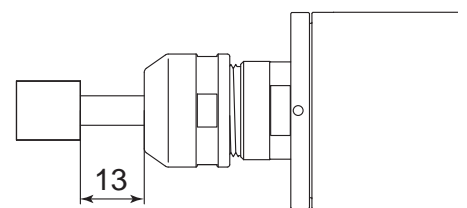

Fig. 15
- ① The proper surface speed for general grindstones is 10 - 30m/s.
- ② Do not exceed 13mm of overhang for mounted grindstones as shown in Fig. 15. If the overhang must exceed 13mm, reduce the motor speed in accordance with table 2.
- ③ Dress the grindstone prior to use.
- ④ Do not use cutting tools with bent or broken shanks, cracks or excessive run-out.
- ⑤ For grinding, the maximum depth of cut should not exceed 0.01mm radially or axially. Reciprocate the tool several times after each pass to eliminate tool pressure.
- ⑥ Always operate tools within the allowable recommended speed of the cutting tools. Use of a cutting tool outside of the allowable speed of the tools could cause damage to the spindle and injury to the operator.
- ⑦ Keep the cutting tool shank and collet chuck clean. If contaminants are left in the collet chuck or chuck nut, excessive run-out will cause damage to the cutting tool and or spindle.
- ⑧ Do not strike or disassemble the spindle.
- ⑨ Please minimize the tool overhang amount to maintaining high accuracy. 13mm is the maximum amount of overhang to maintain high accuracy and safety.